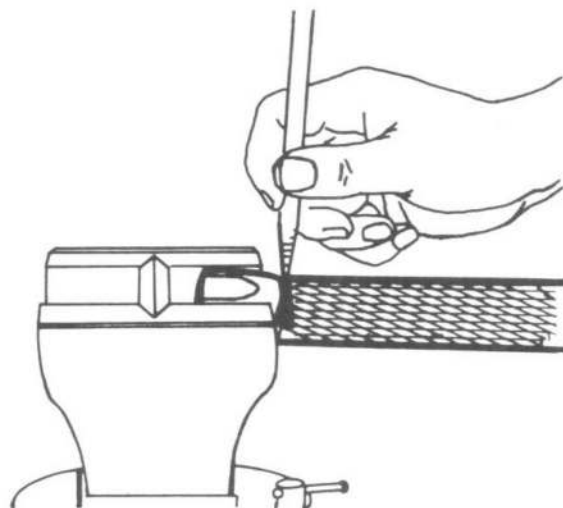

Fig.13 Marking the hose for check of push out
(1) Place the socket of one end fitting in a vice and insert the hose with a twisting and pushing motion until the hose end is in line with the back of the socket threads.
(2) Mark the hose with tape, or a painted or grease pencil line, at the point where the socket end sits after being properly installed (fig. 13). This marking is important as it is used to check the hose for push out while fitting the nipple.